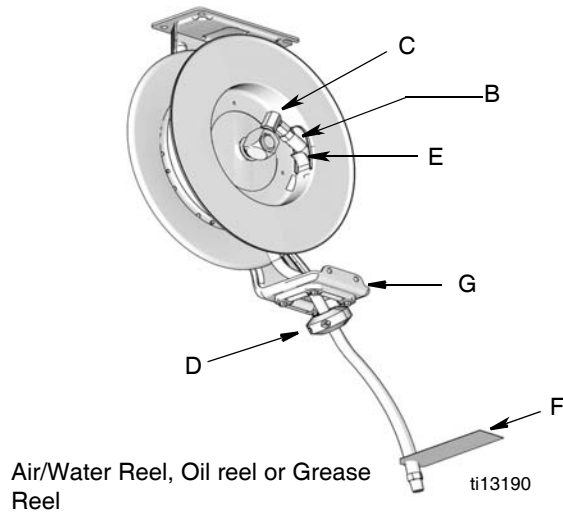

**FIG. 20**
4. Remove hose stop from hose end and put all the parts in a safe place to reinstall on the new hose later (FIG. 20).